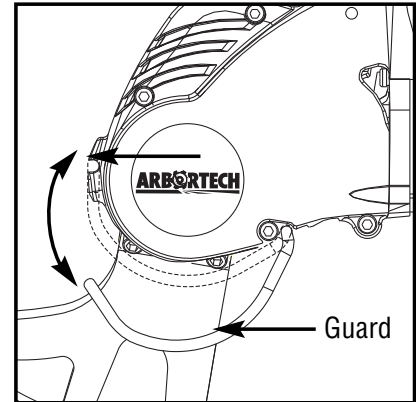

Fig.1
- Before changing blades, the guard around the blade mounts must be levered gently out of its groove at the front of the tool and swung away to give access to the cap screws. (See Fig.1)
- Swing the guard to its groove at the front of the tool and snap it into place. (See fig.1)